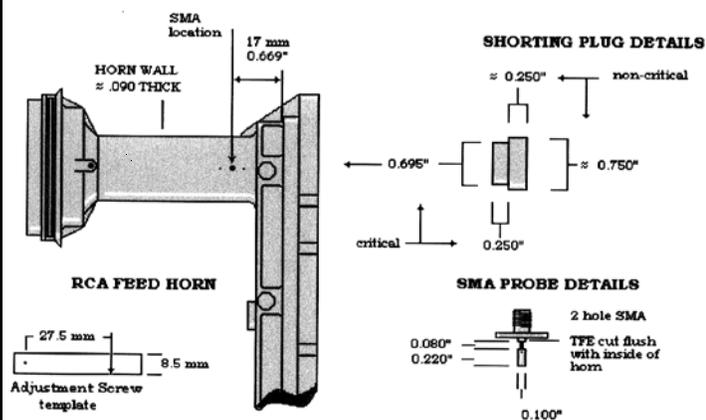

FIGURE 2
pattern for several versions of the dual-mode feedhorn, starting with an input file model of the antenna originally developed by PA3AEF. Then I calculated the potential dish performance provided by the calculated feed patterns using software I developed 3. The pattern shown in Figure 2 is very clean, with low side and back lobe levels. The calculated efficiency is best for a reflector f/D around 0.5 to 0.6. This version 4, with an output diameter of 1.31λ, is popularly known as the W2IMU feed, and has been used from 432 MHz to 24 GHz with good results on both conventional and offset dishes.
2. Accurately locate and mark with a scribe or prick punch the location for the SMA connector. See figure 2 for dimensions.
3. Using the adjusting screw template as shown in figure 2 - align the SMA location on the template to that on the horn and wrap the paper around the horn with the arrow pointed toward the flared open end. The arrow will indicate the point at which a hole will be drilled and tapped for the 2-56 matching adjustment screw. Note that this falls in line with the previously removed rib - if it doesn't you went the wrong way around the horn.